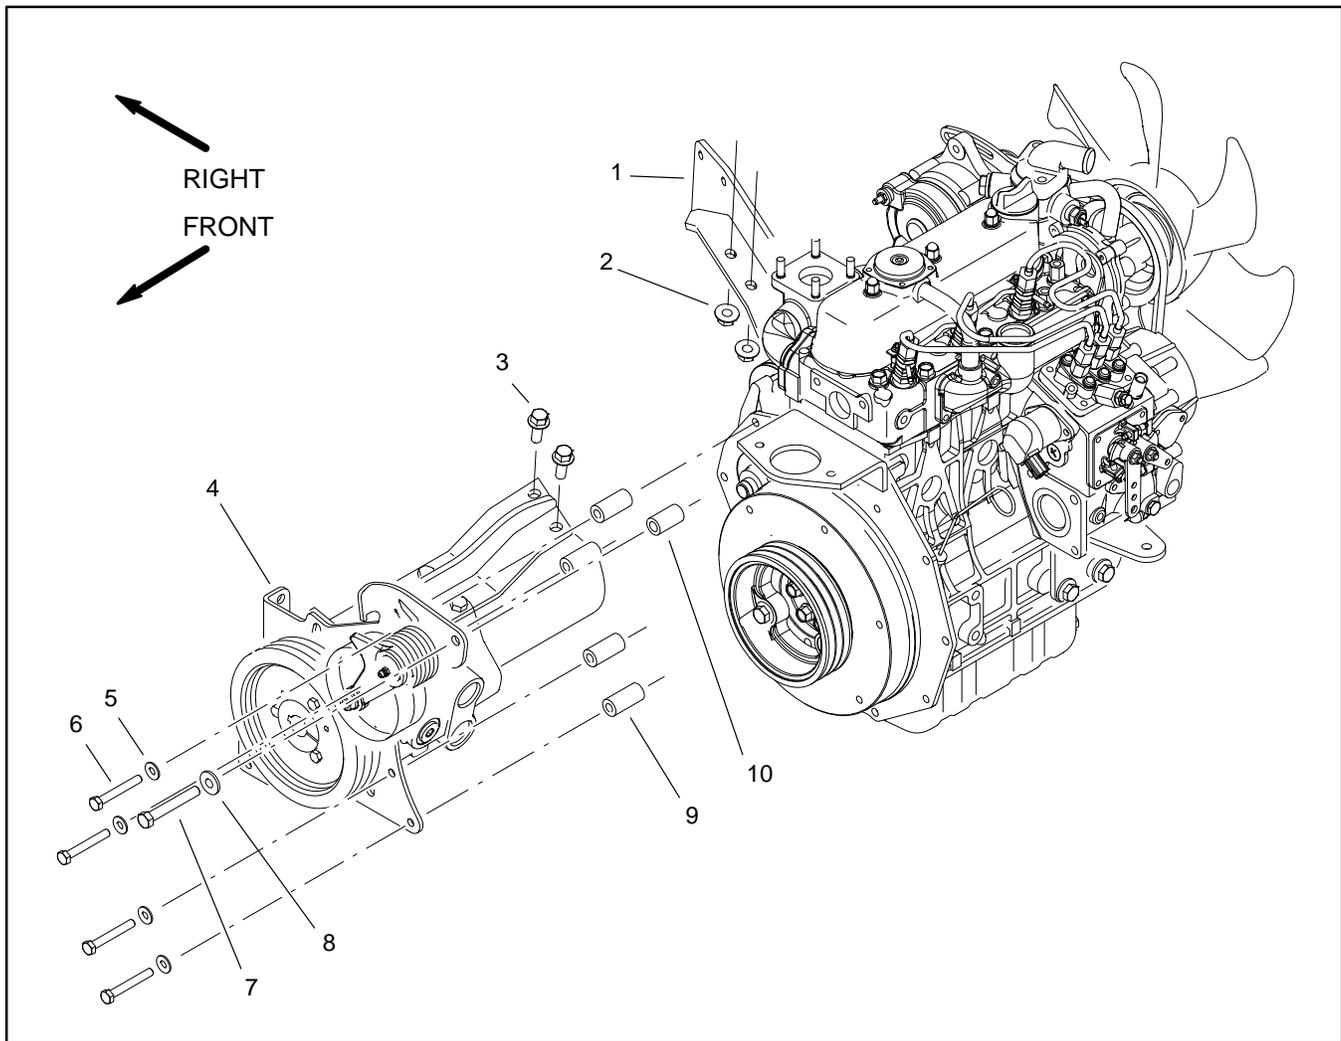

Figure 53
11. Remove fasteners and spacers securing the pump mount plate to the engine (Fig. 53). Note location of cap screws, washers and spacers for assembly purposes.
6. Position pump pulley to taper lock bushing and align non-threaded holes of pulley with threaded holes of bushing. Loosely install three (3) cap screws with lock washers to bushing and pulley.
7. Position pump assembly to the machine. Install fasteners and spacers securing the pump mount plate to the engine and pump support (Fig. 53). Tighten fasteners securely.